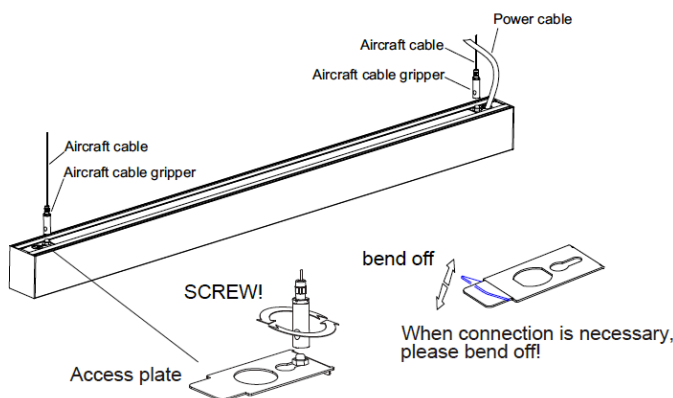
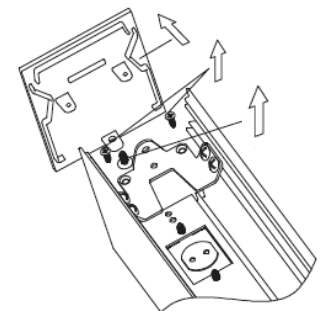

Fig. 13
Fig. 12
2. Remove the end cap and side plate (**Warning:** only tighten the screws after removing the access plate from the fixture housing). (Fig. 12) Securely tighten the screws (with washer) onto the access plate and slide it back in. Put the end cap back in place. (Fig. 13)